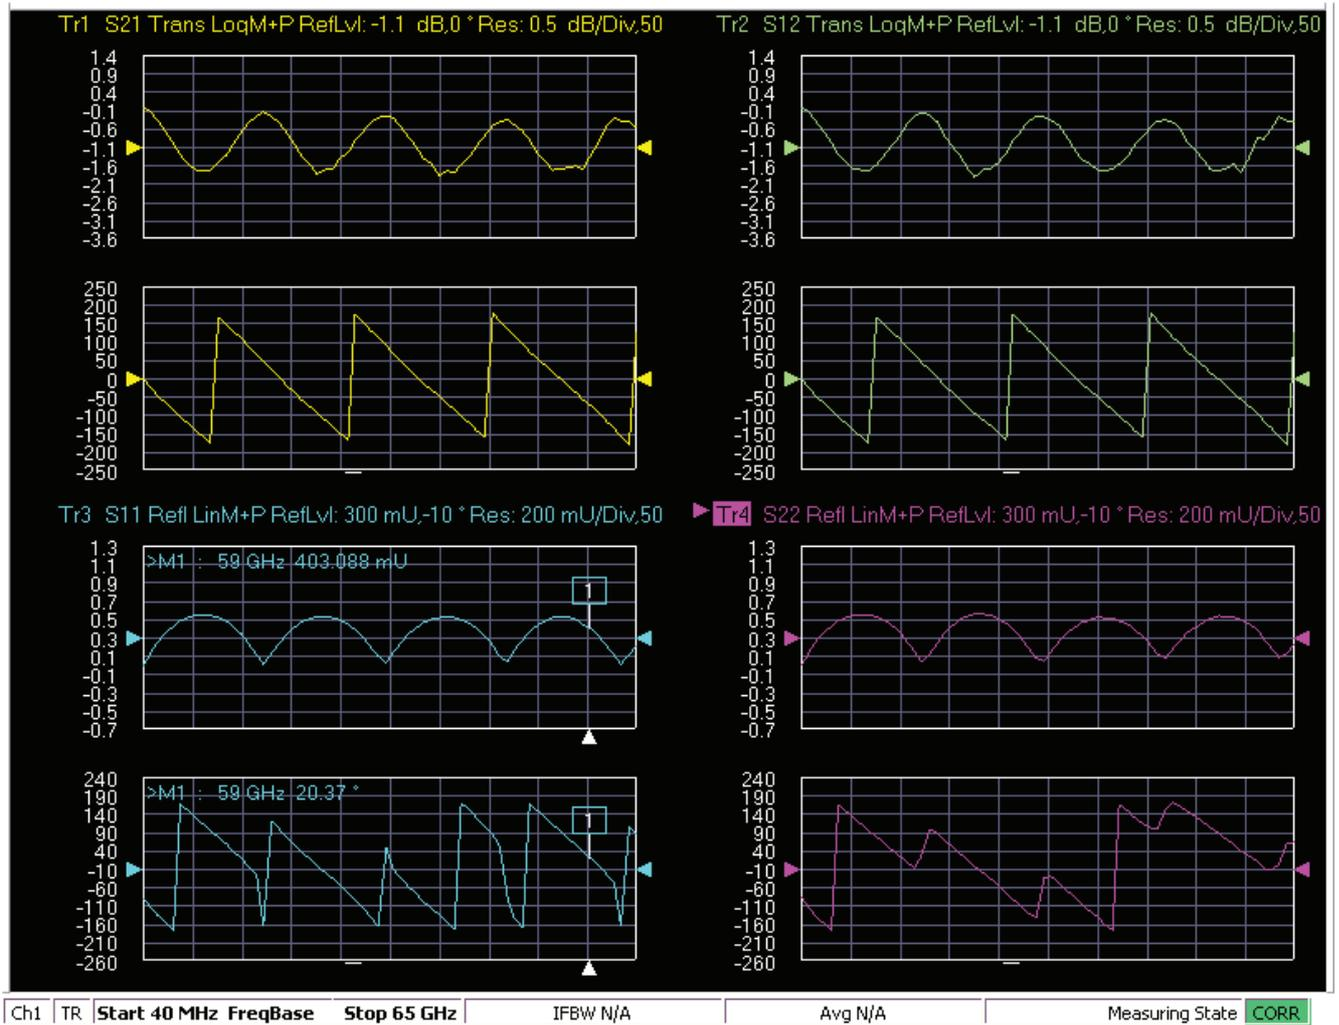

Figure 4-53. MS4640B Series VNA, Typical Mismatched Thru Data in Low Band
- When the test completes, the program returns to the main menu described Section 4-9 “Application Interface – Main Menu Tab” on page 4-27, and the display should look similar to Figure 4-53. This is a typical display immediately after measuring the Mismatched Thru in the Low Band. Please note this is for reference only and that the actual data on the VNA display may not be identical.